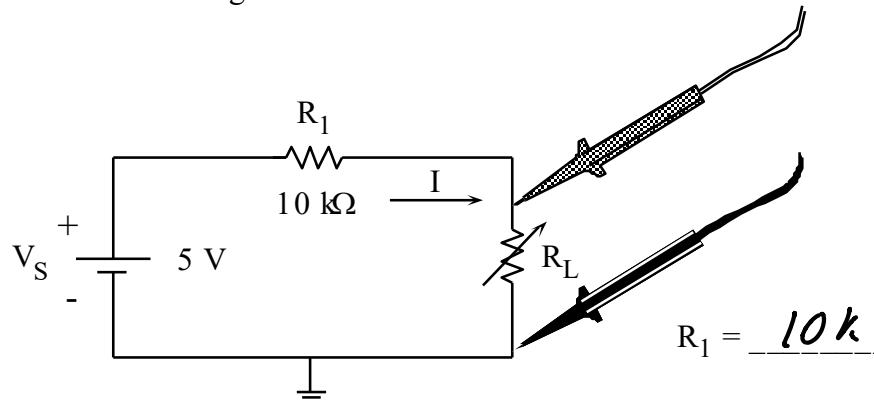

Figure 1.1 Simple voltage divider circuit with DVM probes shown.
Fig. 1.1 shows a voltage divider circuit. For this circuit find:
- a) Set up the circuit shown in Fig. 1.1. Measure and record the actual value of R_1 .
- b) Set the dc power supply to 5 V. Measure the voltages across R_1 and R_L using the DVM as shown in Fig. 1.1 (Set the DVM to measure DC). Vary the R_L to the values given in Table 1.1; measure the voltages at each point. Enter all the values in the table under the column labeled “MEASURED”.
- a) *DVM measurements:* Replace the dc power supply in Fig. 1.1 with the frequency (function) generator. Adjust the voltage to 5 V_{p-p} at 1 kHz. Repeat parts (a) - (c) of the dc measurements. Tabulate your data in Table 1.3. Note that the DVM should be in AC mode in order to measure AC rms. values.
- Find the current in the circuit of Fig. 1.1 when $R_L = 50 \text{ k}\Omega$.